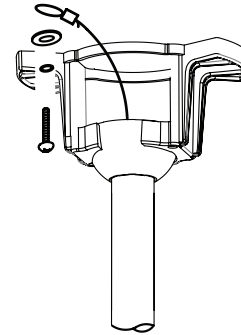

FIGURE 13
2. Secure the safety cable to the building structure using a spring washer, flat washer and wood screw provided (Fig. 13).